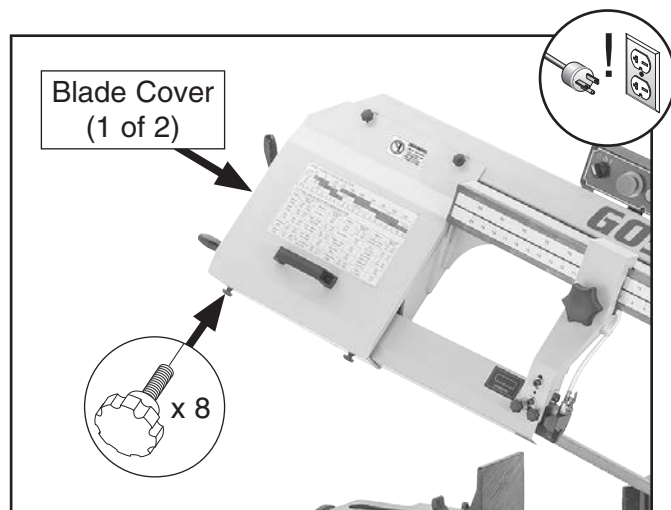

Figure 88. Location of blade covers and knobs.
4. Remove (2) blade covers by loosening (8) knobs shown in **Figure 88**.